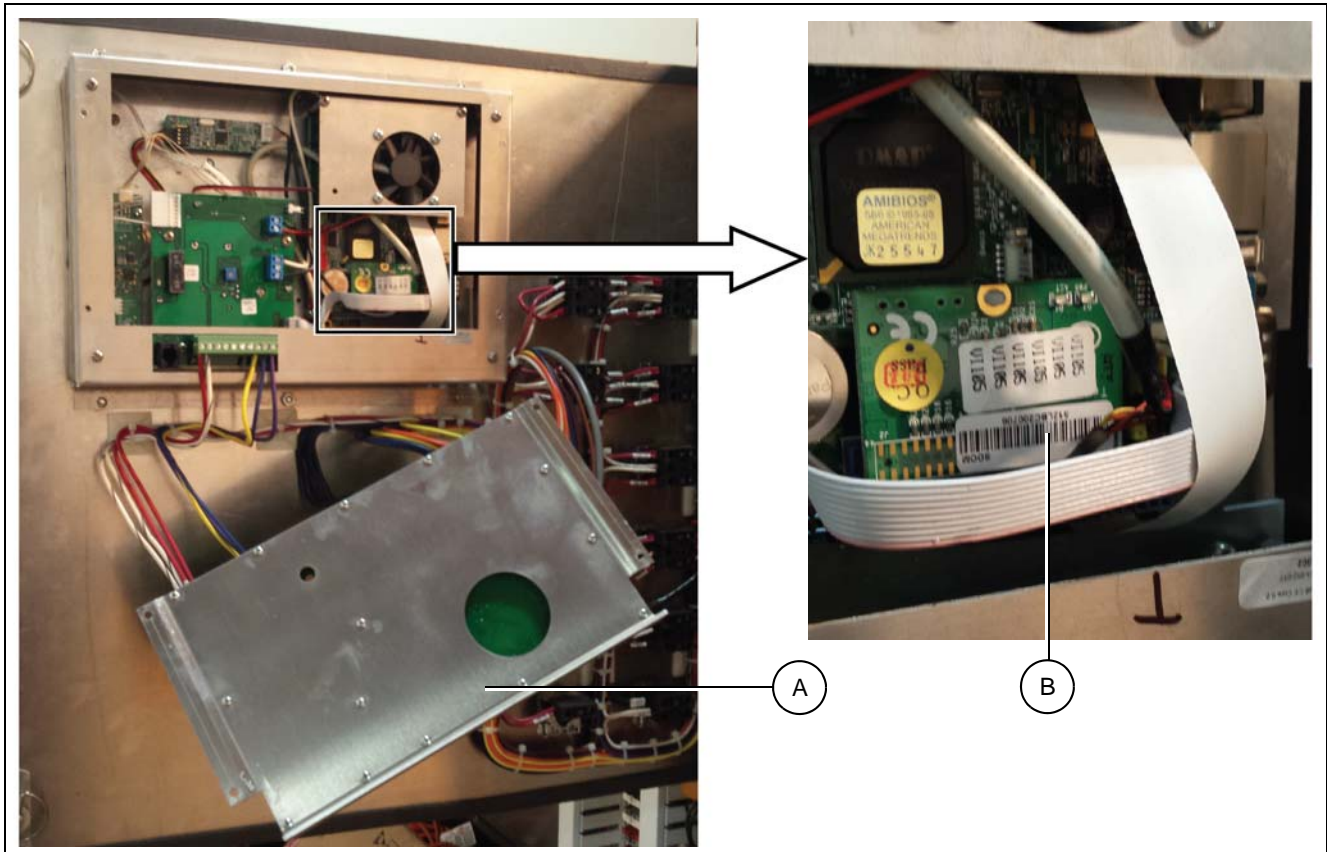

Figure 4 Drive Location
1. Temporarily remove the four (4) screws holding the Display I/O board mounting bracket from the back of the Vision display, exposing the inside of the display. (See Figure 4.)